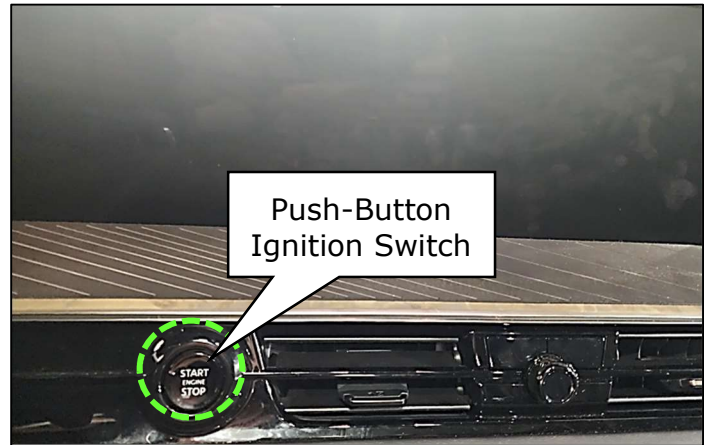

Figure 4
- Turn the ignition ON (Engine OFF) by pressing the push-button ignition switch without depressing the brake pedal (Figure 4)